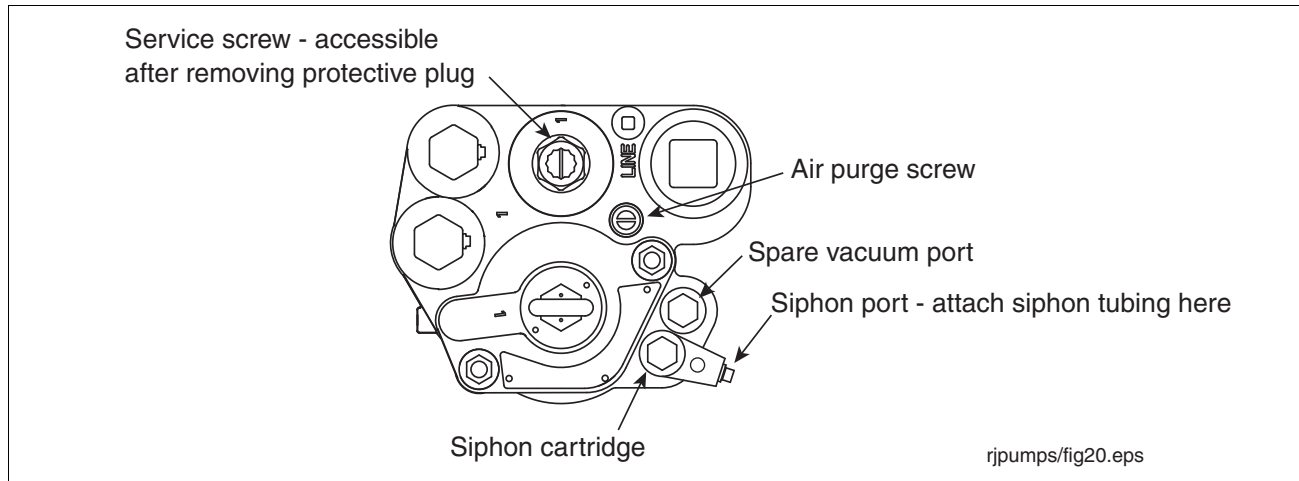

Figure 27. Siphon connection
The siphon port for The Red Jacket STP is in a siphon assembly that fits into one of the two vacuum ports (see Figure 27). The port end can be swiveled after loosening the hex on top to accommodate the incoming siphon tube. Torque the siphon assembly to 15-30 ft-lbs (20-41 N•m) after positioning.
2. Open the air purge screw 2 - 3 turns counterclockwise (see Figure 27).